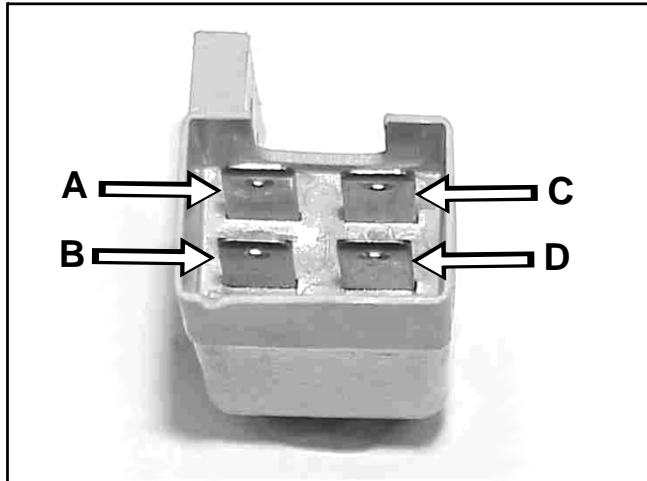

Figure 38 Neutral Switch
2. Using a multimeter, follow the procedure listed below (Figure 38):